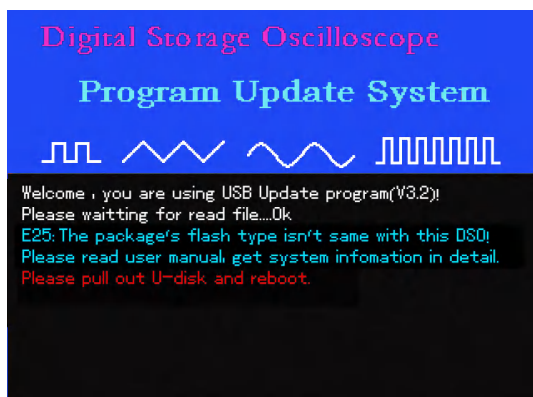

Figure 5-10
5. During upgrade, if the FLASH of the program upgrade document you copy or select is different from that of the Oscilloscope, the prompt in Figure 5-10 will appear: "E25 The package's flash type isn't same with this DSO! Please read user manual. get system information in detail. Please pull out U-disk and reboot."